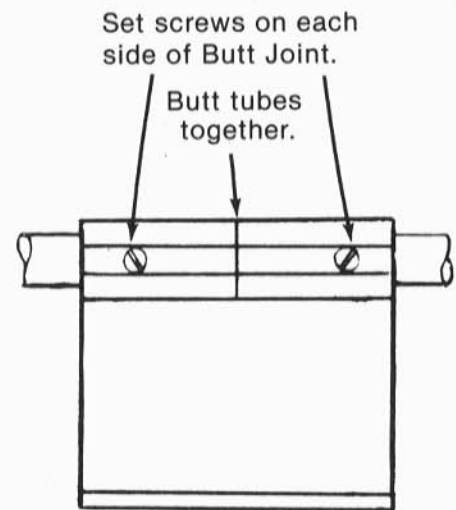

Figure 2 — Inside View of Brackets
2. Assemble rack on the ground and partially tighten set screws in brackets. Brackets should straddle tubing joints, as shown in Figure 2.